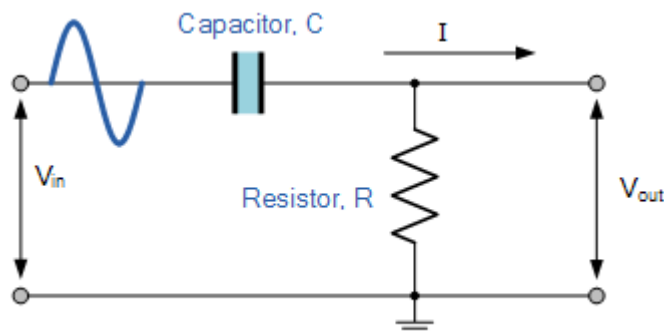

Figure 4: High Pass Filter Circuitry Schematic
A high pass filters output readings should be low in amplitude when applied input has a low frequency components, vice-versa output readings should be high when applied input has high frequency components shown in Figure 3. To obtain this characteristic a circuitry given in Figure 4 can be used.
3. Build and connect the circuit shown in Figure 4 with $R = 1\text{ k}\Omega$ and $C = 1\text{ }\mu\text{F}$ and repeat step 2 for Table 2.